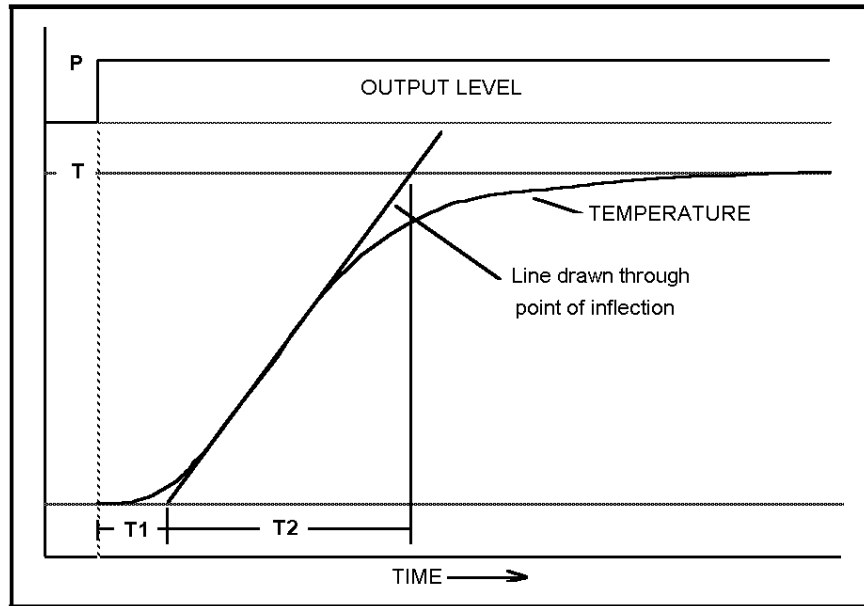

FIGURE 7: PROCESS REACTION CURVE - EXPANDED
Further work attributed to G. H. Cohen and G. A. Coon (2), yielded a more thorough evaluation of the Process Reaction Curve (Figure 7).